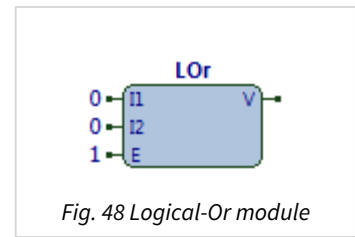

Fig. 48 Logical-Or module
The LOr module (Fig. 48) performs the logic operation to determine whether either of its specified inputs are set non-zero. It performs the logical or operation (OR).